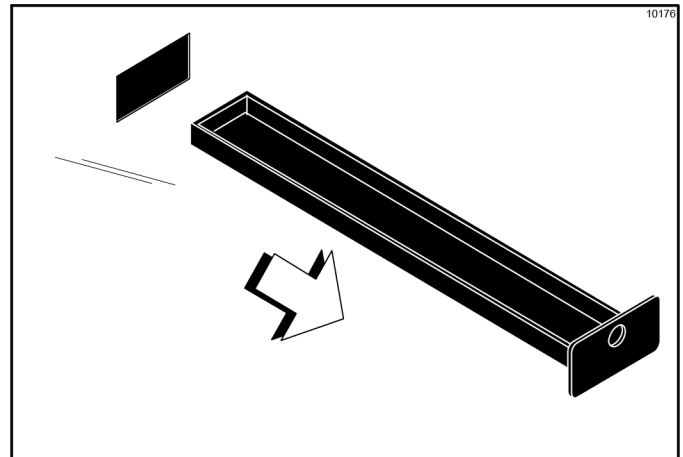

Figure 6-63
- Remove the drip pans and take them to the sink for cleaning. (See Figure 6-63.)